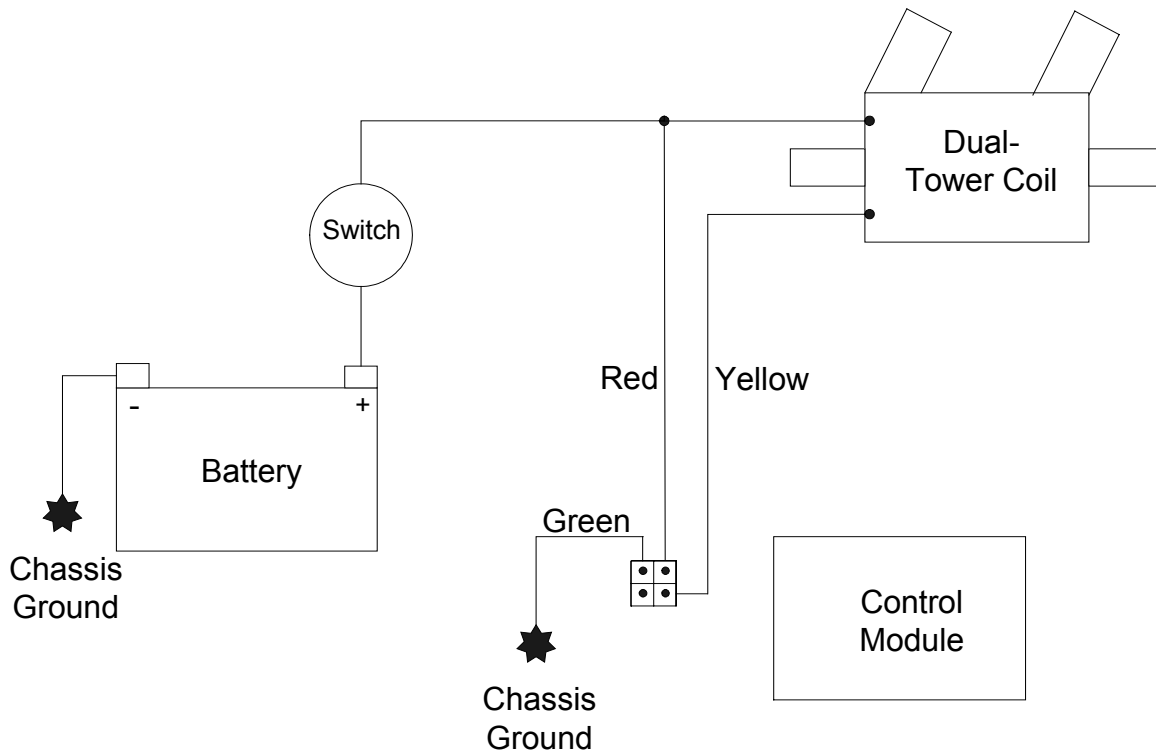

Figure 1
43. Figure 1 is a diagram of how the power wiring should look when you're done. The pickup plate and its wires are left out of the diagram for clarity – only the wires that the installer is responsible for connecting are shown. If you are unfamiliar with wiring diagrams, wires that have a “dot” at their intersection are electrically connected to one another.